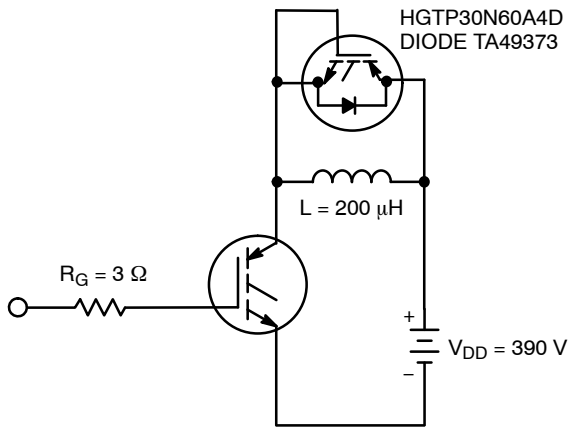

Figure 20. Inductive Switching Test Circuit
| Current Turn-On Delay Time              | t d(ON)I  | IGBT and Diode at T J = 25°C,I CE = 30 A,V CE = 390 V,V GE = 15 V,R G = 3 Ω, ,L = 200 μH,Test Circuit - Figure 20 | -                      | 25  | -    | ns   |    |
| Current Turn-On Delay Time        | $t_{d(ON)I}$    | IGBT and Diode at $T_J = 125^\circ\text{C}$ ,$I_{CE} = 30\text{ A}$ ,$V_{CE} = 390\text{ V}$ ,$V_{GE} = 15\text{ V}$ ,$R_G = 3\ \Omega$ , ,$L = 200\ \mu\text{H}$ ,Test Circuit – Figure 20 | –   | 24   | –    | ns                 |
2. Values for two Turn-On loss conditions are shown for the convenience of the circuit designer.  $E_{ON1}$  is the turn-on loss of the IGBT only.  $E_{ON2}$  is the turn-on loss when a typical diode is used in the test circuit and the diode is at the same  $T_J$  as the IGBT. The diode type is specified in Figure 20.